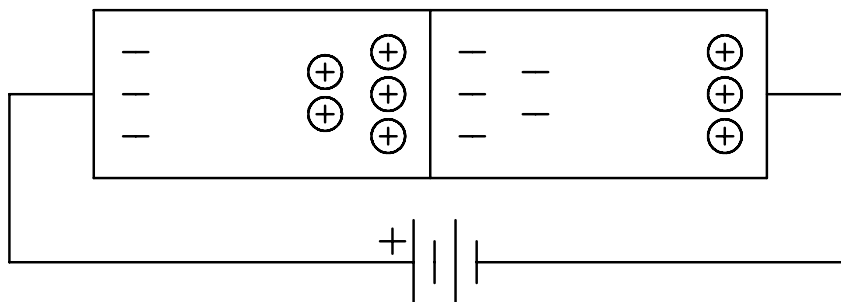

fig. 4
With no voltage applied to the diode, no voltage difference exists between the two types of material and the current carriers stay put. Now, connect a battery across the diode as shown in fig. 4 and observe what happens.
4. What happens to the holes and electrons if a battery is connected across the diode as shown in fig. 4?